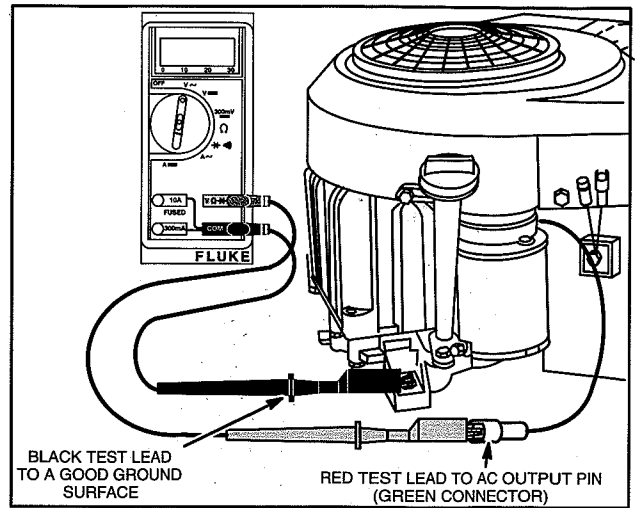

Fig. 20 – Testing AC Output
4. Attach RED test lead clip to output terminal, Fig. 20.